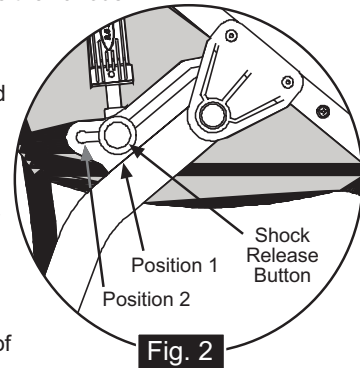

Fig. 2
- 2. SWINGARM:** Rotate the swingarm away from the front of the stroller until the shocks engage in the first position (Fig. 2). Each shock locking pin will "snap" and lock into position 1.